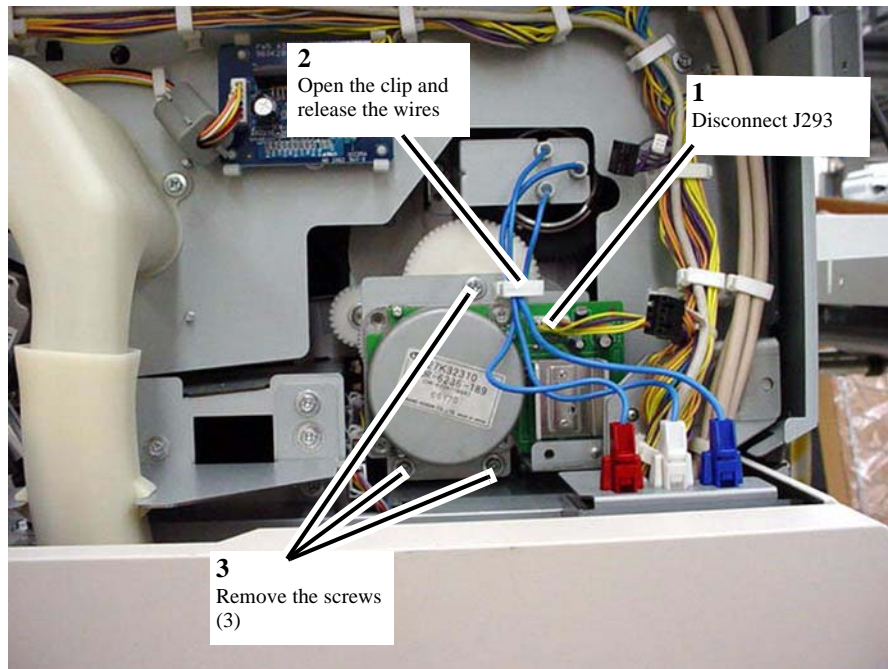

Figure 1 Fuser Drive Motor removal
3. Remove the Fuser Drive Motor (Figure 1).